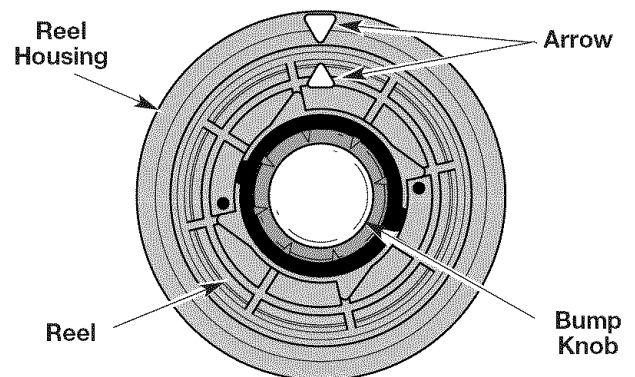

Fig. 14
1. Line up the arrow on the reel with the arrow on the reel housing (Fig. 14).